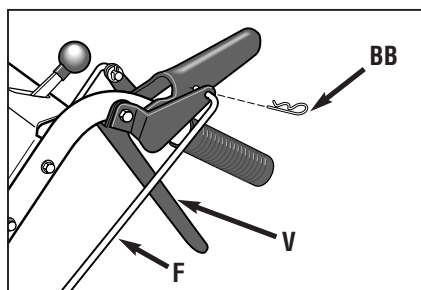

Figure 2-4A: Attach wheel drive control rod to lever.
1. Locate the wheel drive control rod (F, Figures 2-4A & 2-7) and remove the angled end from the left handlebar by removing the hairpin clip which secures it to the Wheel Drive Control lever (V, Figure 2-4A)
4. At upper end of control rod, re-insert the angled end into the Wheel Drive Control lever (V, Figure 2-4A) and re-attach with hairpin clip (BB) removed earlier.